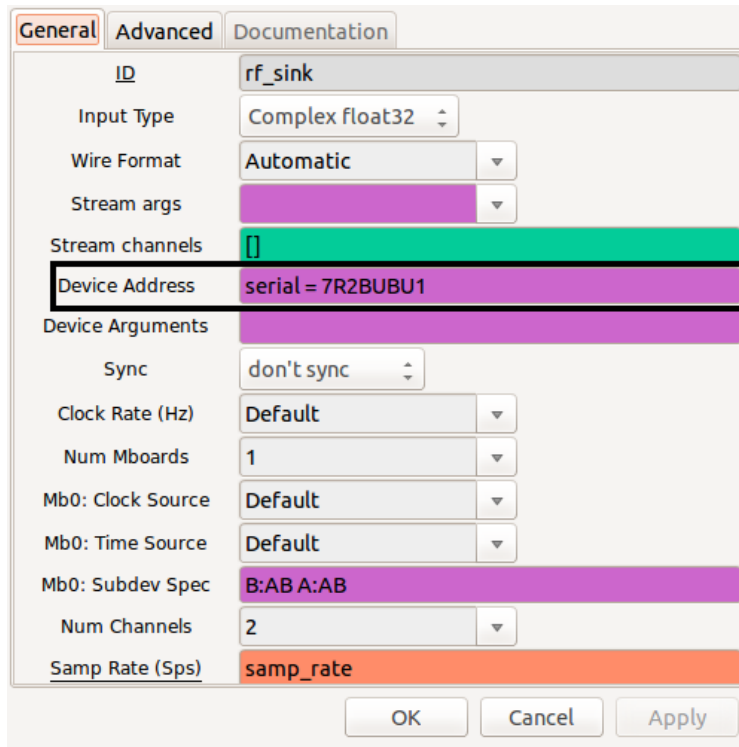

Figure 2: Image of Ettus Research USRP1 motherboard, LFTX, and LFRX daughterboard placement
- Double click the top USRP sink to open the settings, shown in Figure 2, and replace the serial number written in the "Device Address" to the serial number of your RF radio.